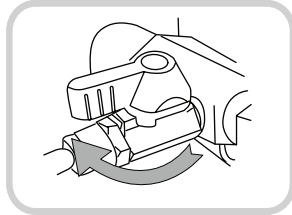

Fig. 7
8. Open the cold water tap and check if there is water leakage on each connecting part (Water Inlet Valve, Drain Saddle and Purifier connections). (Fig 7).